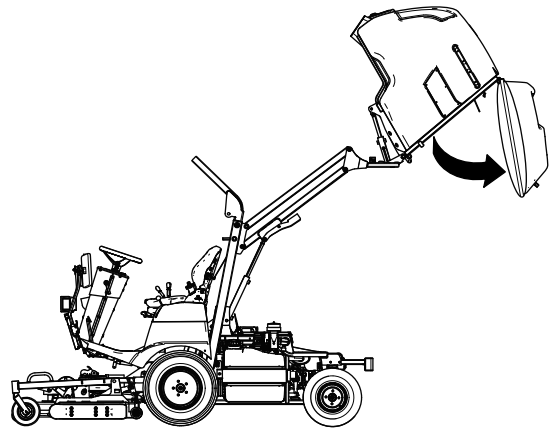

Figure 140
2. Raise the hopper (Figure 140) to the full height position; refer to Raising the Hopper \(page 29\).
3. Dump the hopper (Figure 140) and leave it in the full dumped position, with the rear door hanging freely; refer to Dumping the Hopper \(page 30\).